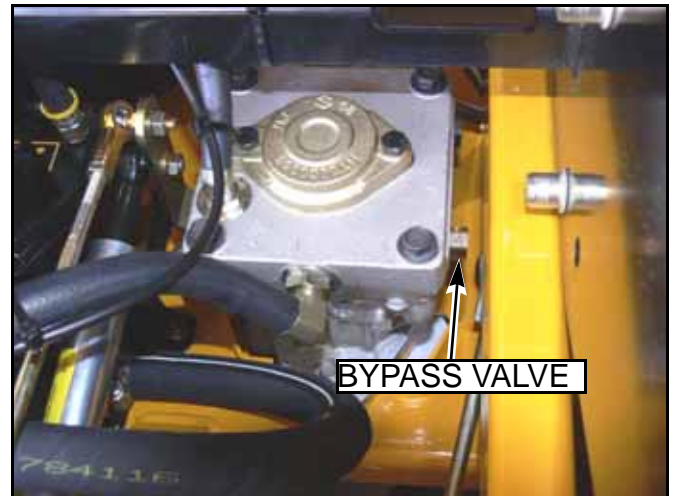

FIG. 27
3. Open the hydraulic pump's bypass valve "FIG. 27", on the side that is being adjusted, by turning bypass valves counter clockwise one-half to one revolution. The valve stems on each hydraulic pump are located near the top and are identified as a hex stud.